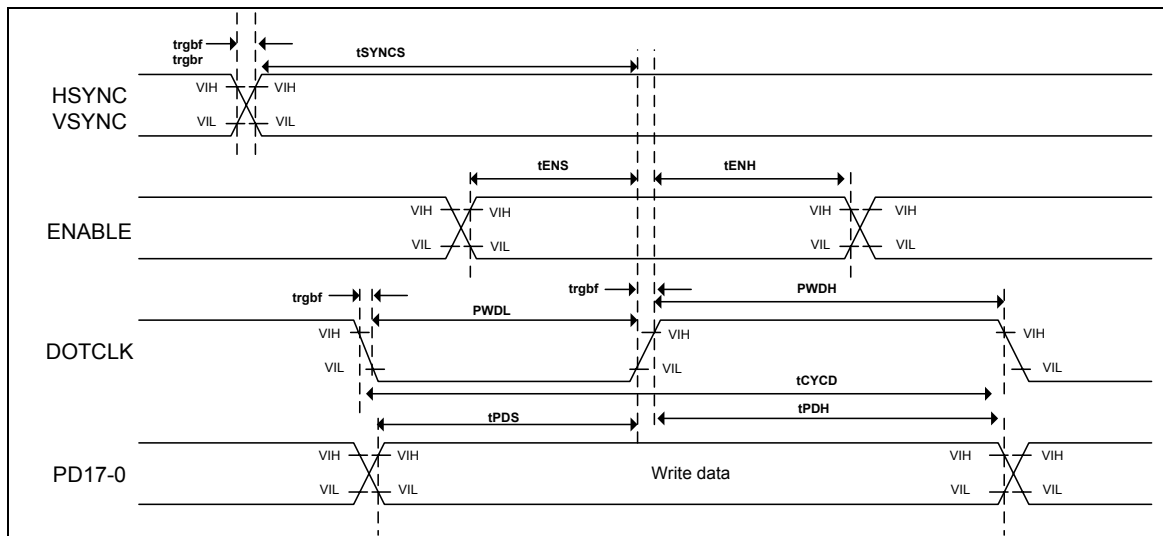

Figure 85 RGB interface operation
**Table 104** See Figure 85 (18/16-bit I/F, IOVcc = 1.65 to 3.30V, Vcc = Vci = 2.50 to 3.30V)